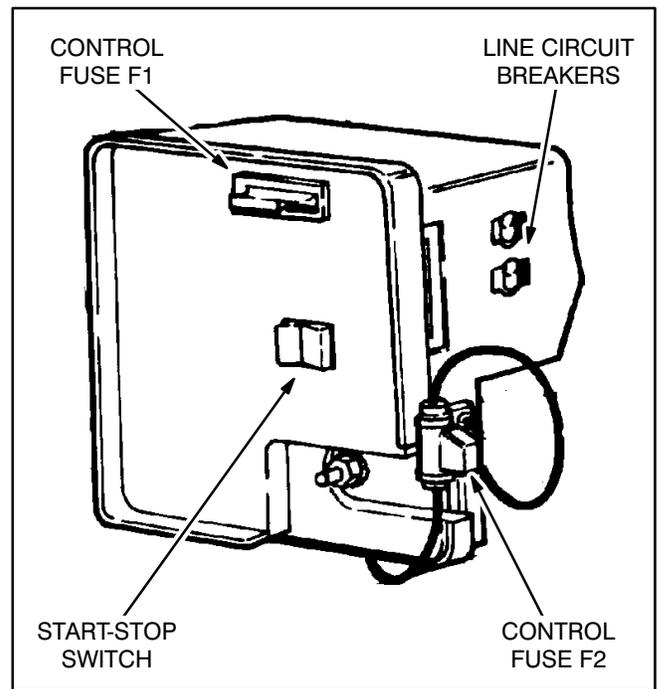
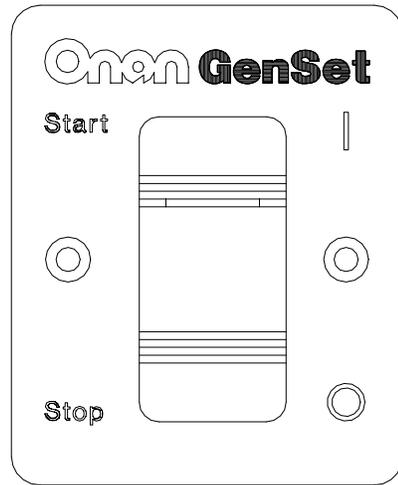

FIGURE 5. GENSET CONTROL PANEL
FIGURE 6. REMOTE START/STOP SWITCH ONLY
The genset control panel (Figure 5) and box include the following features:
- Remote start/stop switch with indicator lamp only (Figure 6).
The genset can be started and stopped from the genset control panel (Figure 5) or from a remote control panel inside the vehicle (Figures 6 through 8).